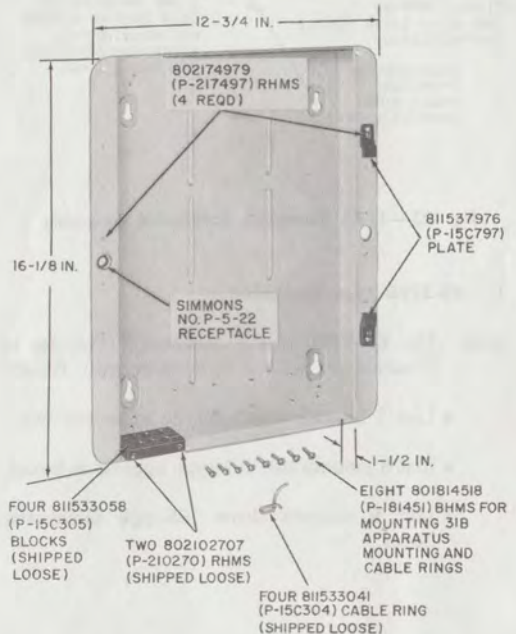

Fig. 22—177A Aluminum Backboard Assembly (MD)
5.03 The 177A die-cast aluminum (Fig. 22) backboard has been replaced by a fiberglass (Fig. 23) backboard. The fiberglass type requires self-tapping screws while the aluminum type requires machine screws for attachment. The 177A backboard is designed for use with the 31B apparatus mounting. A shallow dish-shaped recess provides space for mounting 66-type connecting block. The 811537976 (P-15C797) plates, drilled and tapped to permit right or left hinging of 31B apparatus mounting, may be mounted on either side to hold the gate in an open position. To adapt the 177A backboard for use with the 31A (MD) apparatus mounting, use the D-179862 kit assembly. It consists of a 177A backboard, two metal details, and two 66B1-25 connecting blocks.